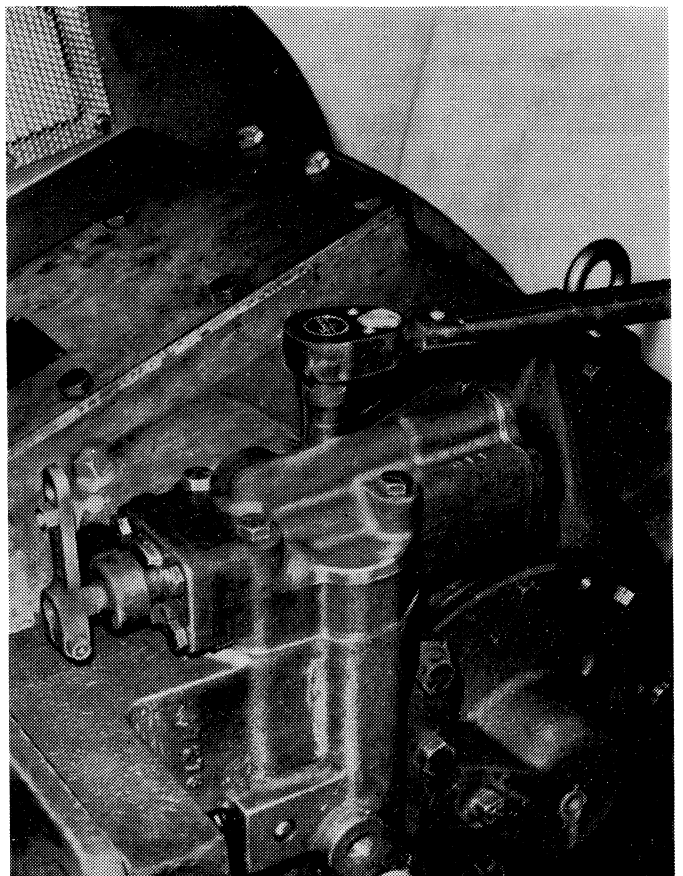

Figure 6-1. Removing or Installing Control Valve.
1. Remove the four capscrews that secure the control valve to the valve and filter carrier assembly and remove the control valve and gasket. See Figure 6-1.